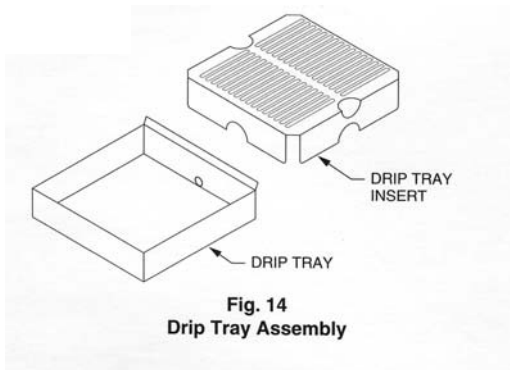

**Fig. 12**
3. Lubricate and assemble the front plate (Fig. 12) in the following manner: